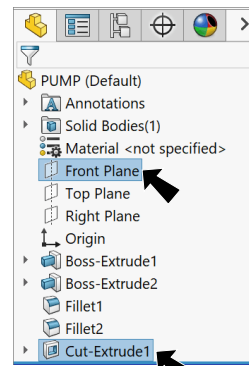

Fig. 27
Step 1. **Ctrl click Front Plane**  and **Cut-Extrude1** feature to select plane and feature, **Fig. 27**.